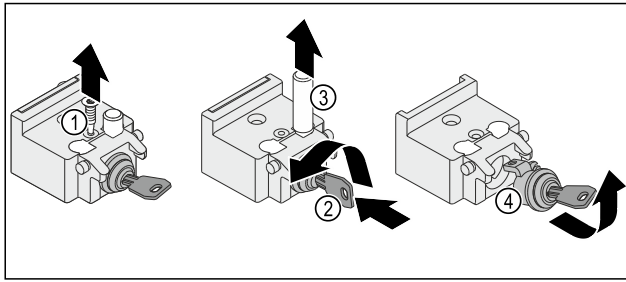

Fig. 13
- ▶ Unscrew the screw Fig. 13 (1).
- ▶ Insert the key Fig. 13 (2) and turn it.
- ▶ Remove the bolt Fig. 13 (3) upwards.
- ▶ Pull out the lock Fig. 13 (4).